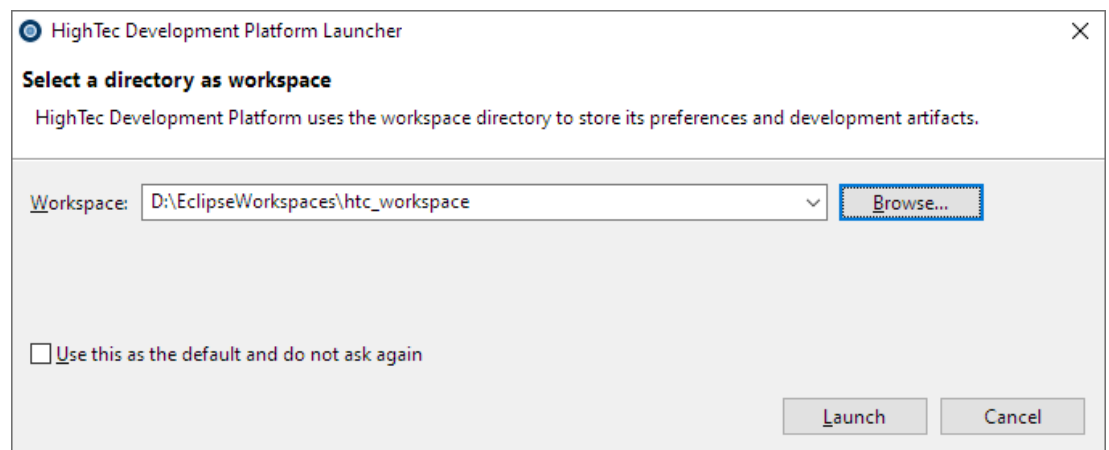

Figure 8 Workspace Launcher
1. From the Windows' **Start** menu, select **All Programs – AURIX(TM) TC3xx - Free Entry Tool Chain v4.9.3.0-infineon-1.0 – HighTec IDE** or use the Desktop icon **HighTec IDE**.
2. Now the Eclipse Launcher dialog appears (Figure 8).